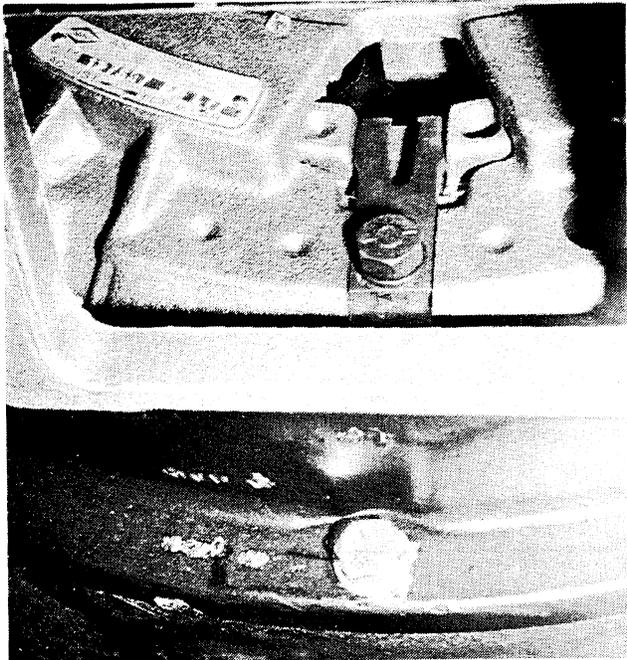

Figure 1:
2. Remove the access cover from the flywheel housing (see Fig. 1).
3. Rotate engine until the ring lock strap is visible in the center of the inspection opening (see Fig. 1).